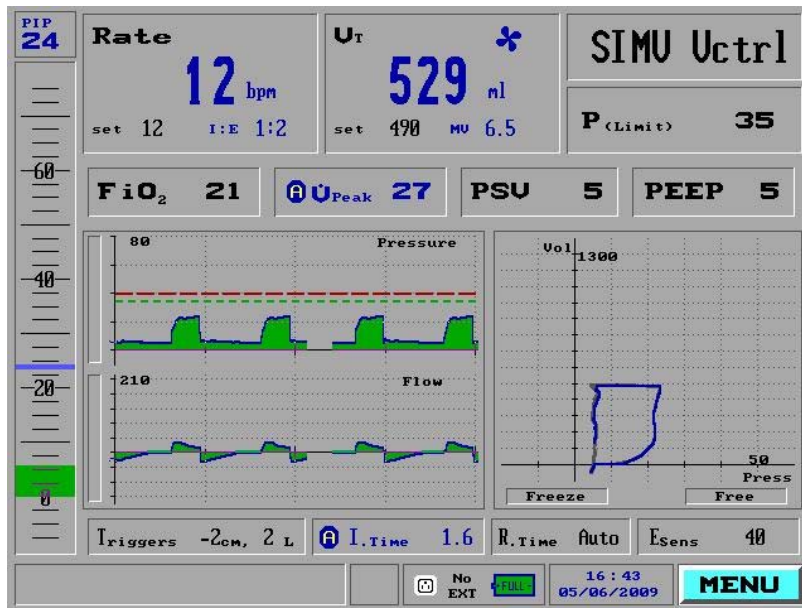

Figure 113: A Pressure/Volume Loop
3. Select any of the loops, or all three. The loops appear on the right side of the **Main** screen. A sample of a **Pressure/Volume Loop** is displayed below (Figure 113):